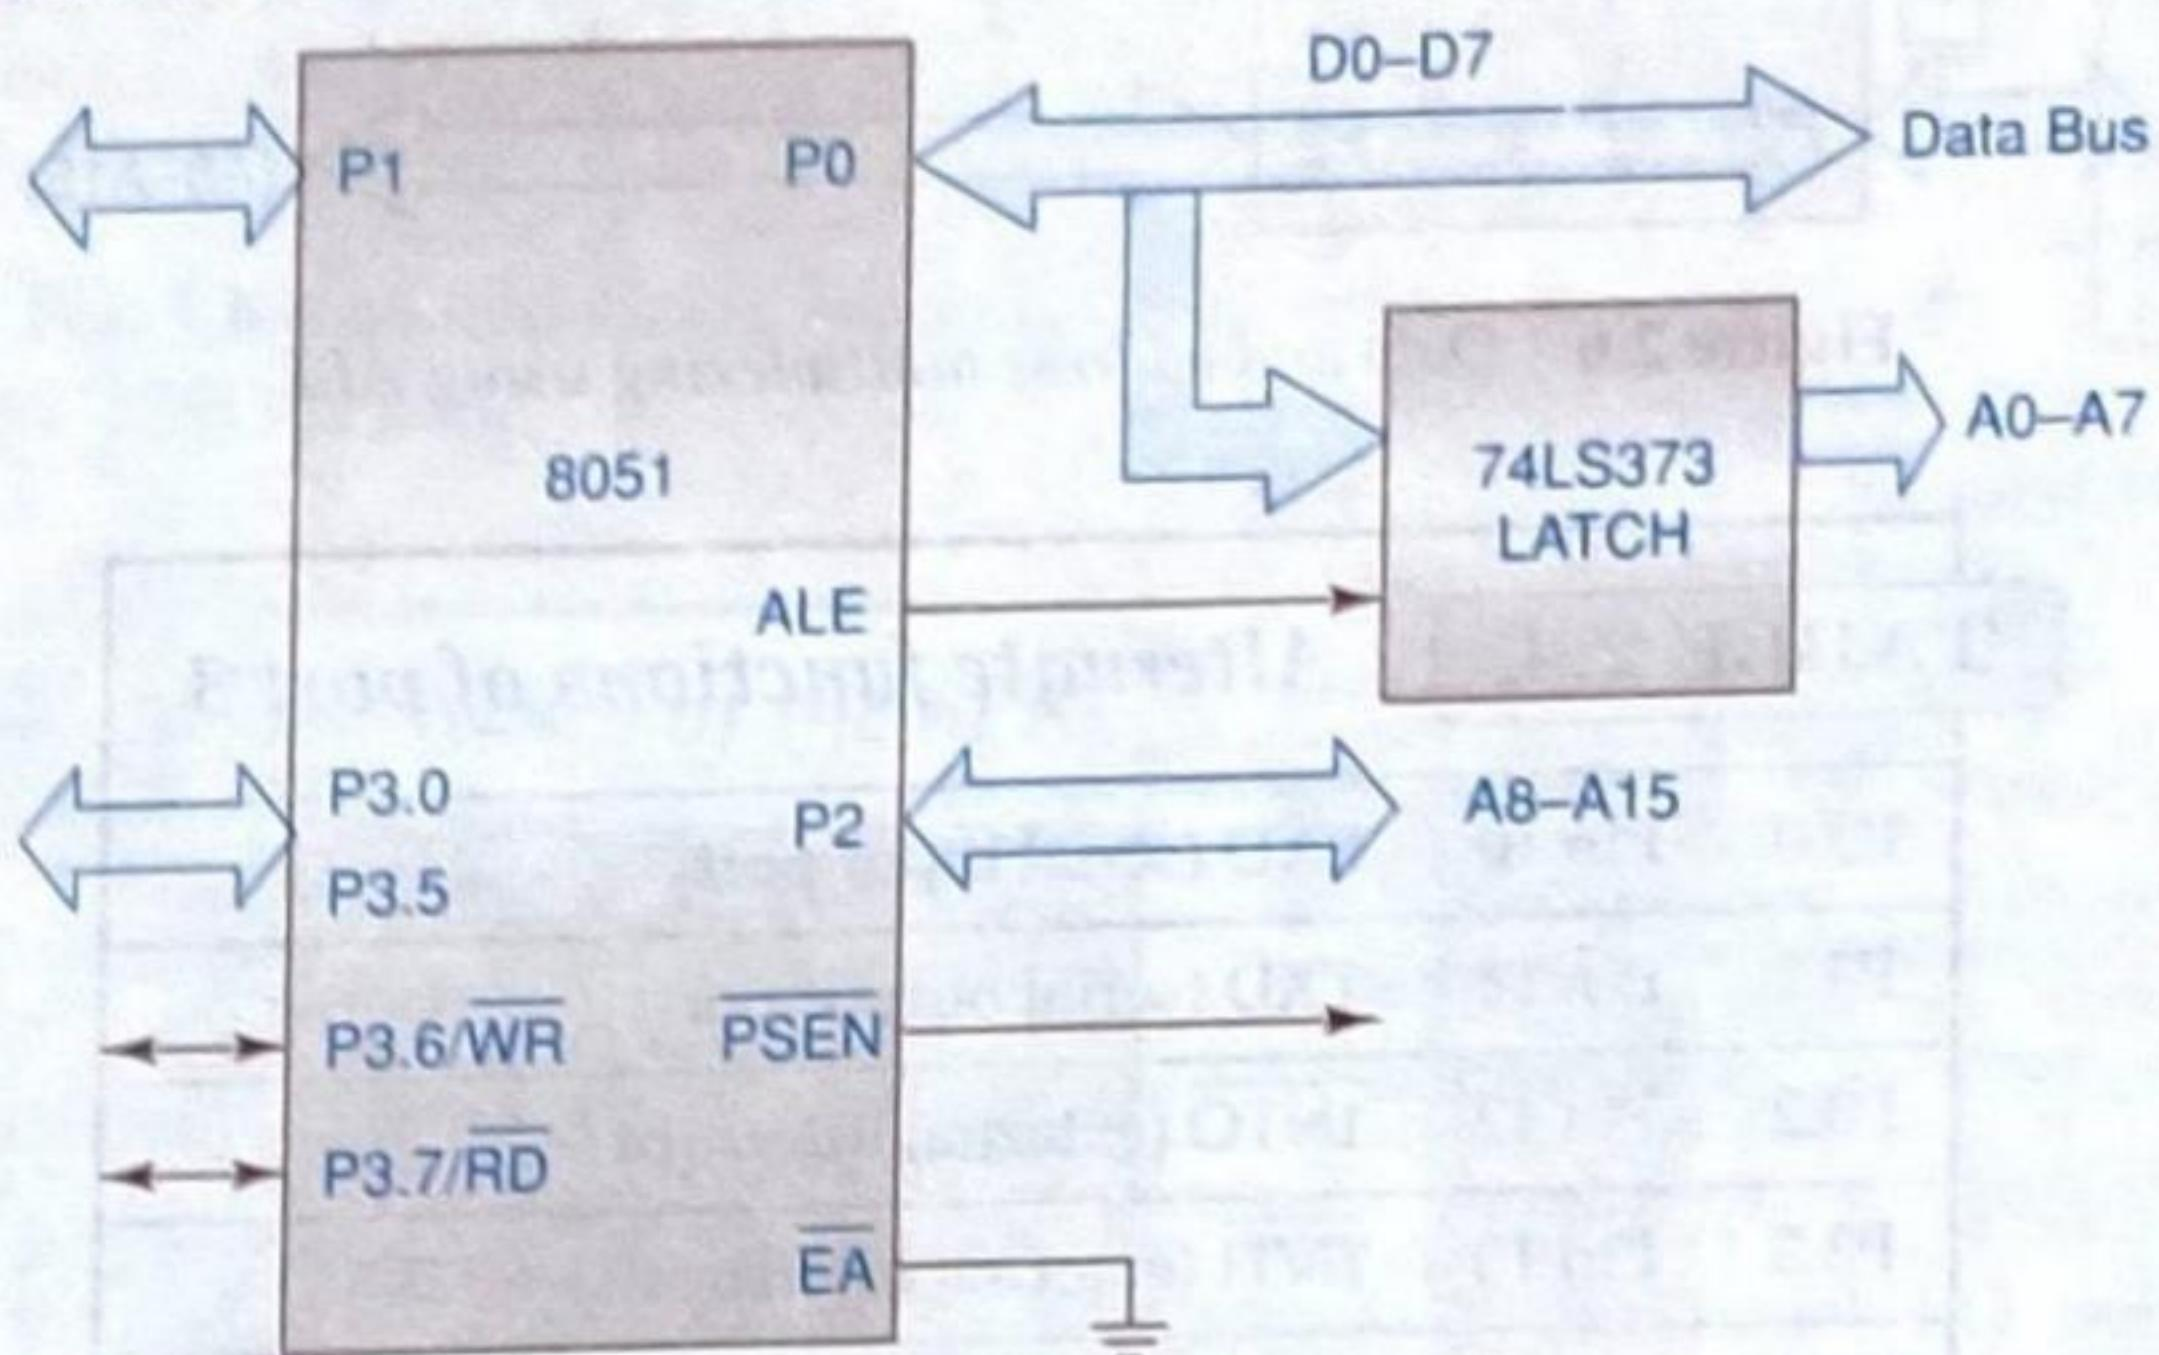

Figure 2.7 Data bus, address bus and control signals of 8051
The 8051 devices have 4 Kbytes of on-chip program memory and 256 bytes of on-chip data random access memory. In addition to internal memory, 64 Kbytes of program memory and 64 Kbytes of data memory can be interfaced with 8051 using port 0, port 2, port 3.6, port 3.7, PSEN and EA pins. Program memory is accessed using the program counter (PC) and A, or DPTR and A. Data memory is accessed using DPTR, R0 and R1 register. In 8051, port 0 and port 2 provide 16 bit address to access external memory. Port 0 provides the lower 8 bit address (A0–A7) and 8 bit data (D0–D7). This is called address/data multiplexing. Port 2 provides the upper 8 bit address (A8–A15). ALE pin of 8051 and 74LS373 latch are used to demultiplex AD0–AD7. Data, address and control buses for 8051 to interface external memory are as shown in Fig. 2.7.